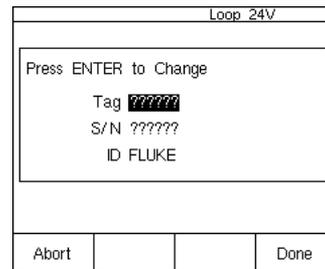

Figure 9
10. Now you are presented with the Tag entry screen (Figure 9).